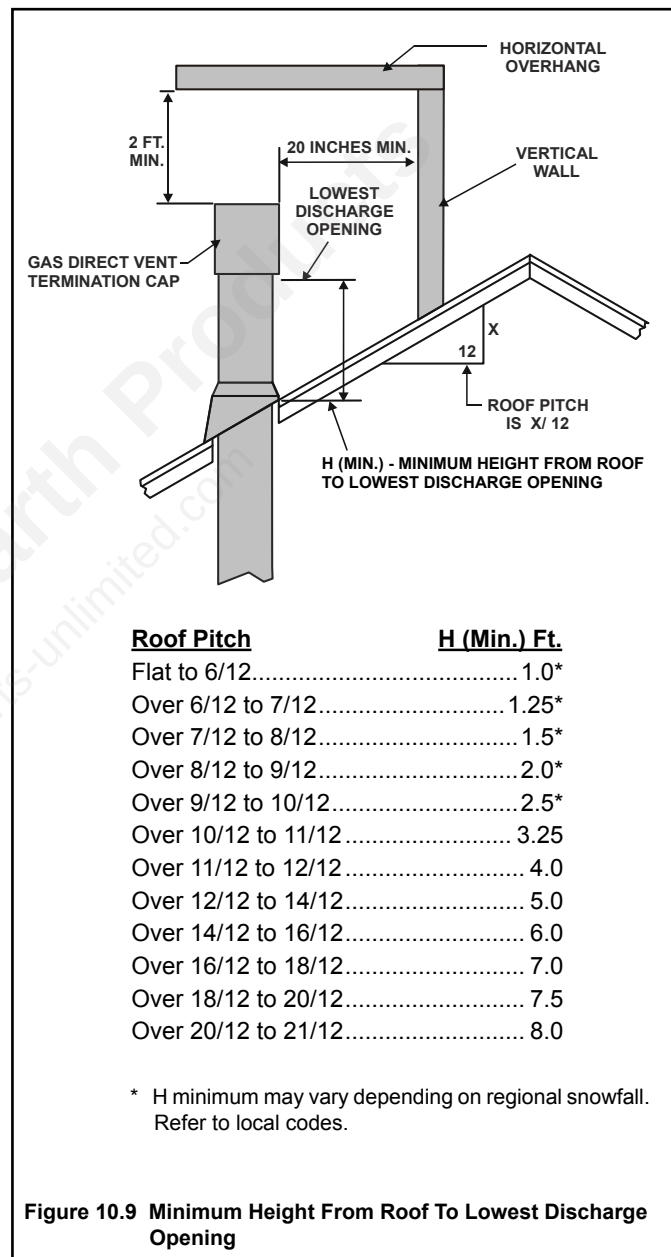

Figure 10.9 Minimum Height From Roof To Lowest Discharge Opening
- See minimum vent heights for various pitched roofs (Figure 10.9) to determine the length of pipe to extend through the roof.